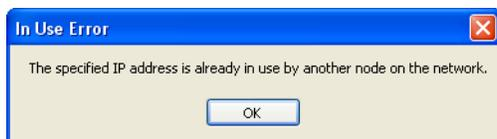

Figure 24: IP Address Already in Use Error
9. Click on the button. If the entered IP Address is in use by another device, an error window appears (see Figure 24). Click the button to clear the window, verify the IP Address is correct and there is no conflict with any existing devices/IP Addresses on the network, and start again from Step 2 on page 14.